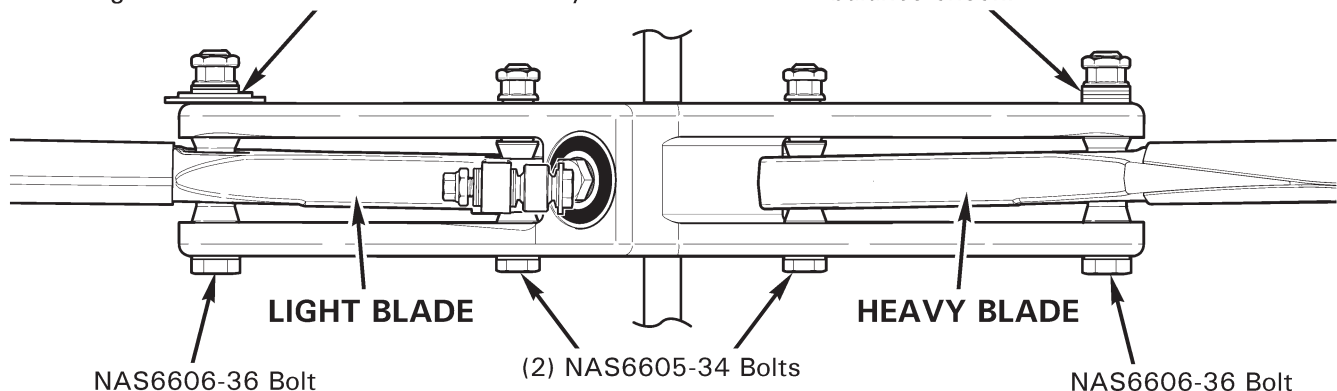

FIGURE 64-3 SPANWISE STATIC BALANCE
6. Refer to Figure 64-3. Place tail rotor assembly, with balance bar, horizontally on balancing stand. Hold tail rotor horizontally, then release to allow rotation. The falling blade is the heavy blade; the rising blade is the light blade.